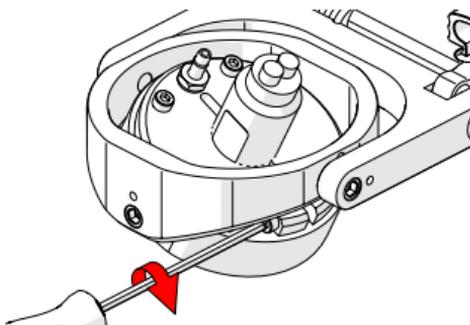

Fig. 138 - Tighten screw
3. Tighten the receptacle screw to hold the probe in place (Fig. 138).